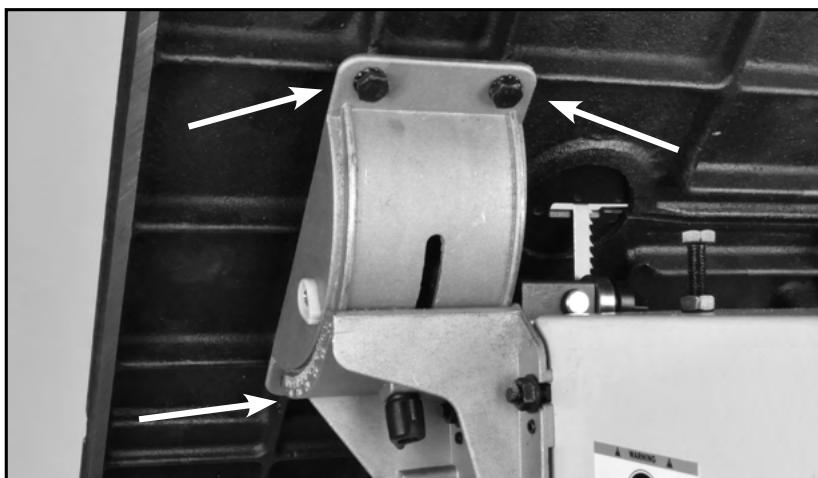

Fig. 23
3. Secure with four bolts and four teeth washers.(Fig. 23)